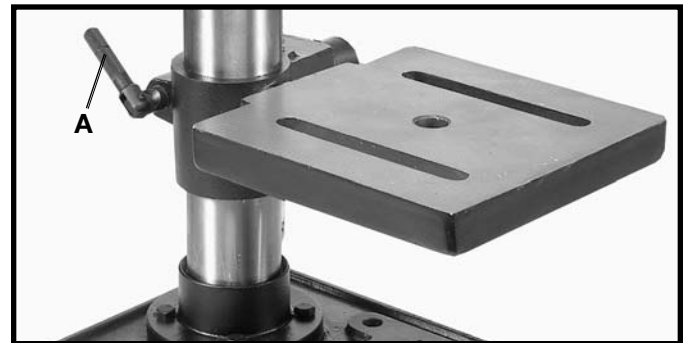
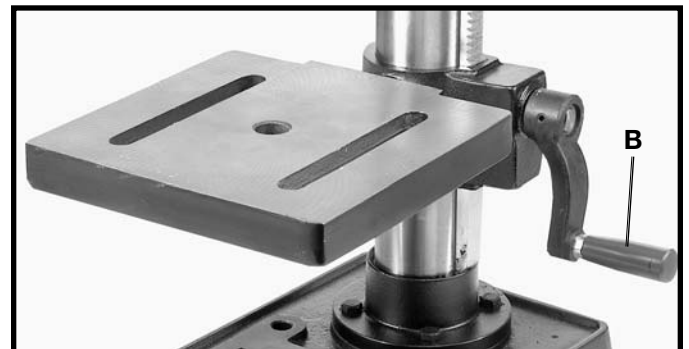

Fig. 23
Fig. 24
1. The table can be raised or lowered on the drill press column by loosening the table clamp handle (A) Fig. 23, and turning the table raising and lowering handle (B) Fig. 24. After the table is at the desired height, tighten handle (A) Fig. 23. **NOTE:** Final positioning of the drill press table should always be from the bottom to the up position.
2. The table can be rotated 360 degrees on the column by loosening clamp handle (A) Fig. 23, rotate table to desired position and tighten clamp handle (A).